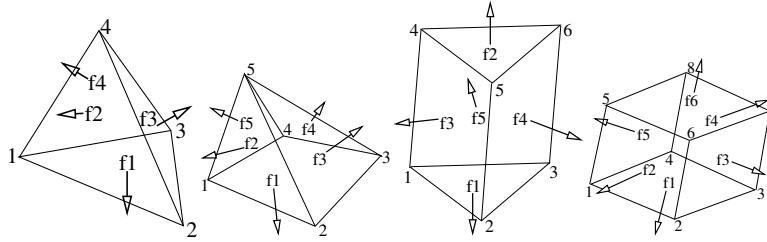

Figure 3.1: Mesh element types in Solfec-2.0.
- **elements** - list of elements: $[e1, n1, n2, \dots, ne1, me1, e2, n1, n2, \dots, ne2, me2, \dots]$, where $e1$ is the number of nodes of the first element, $n1, n2, \dots, ne1$ enumerate the element nodes, and $me1$ is the material number. Similarly for the second and all remaining elements. Supported numbers of nodes per element are 4, 5, 6, and 8 for respectively *tetrahedron*, *pyramid*, *wedge*, and *hexahedron*, see Figure 3.1.